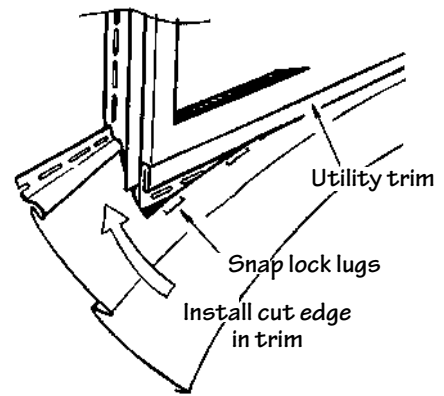

Figure 43.
- Install the siding panel, making sure the lugs (from the snap lock punch) lock into the utility trim (Fig. 43).